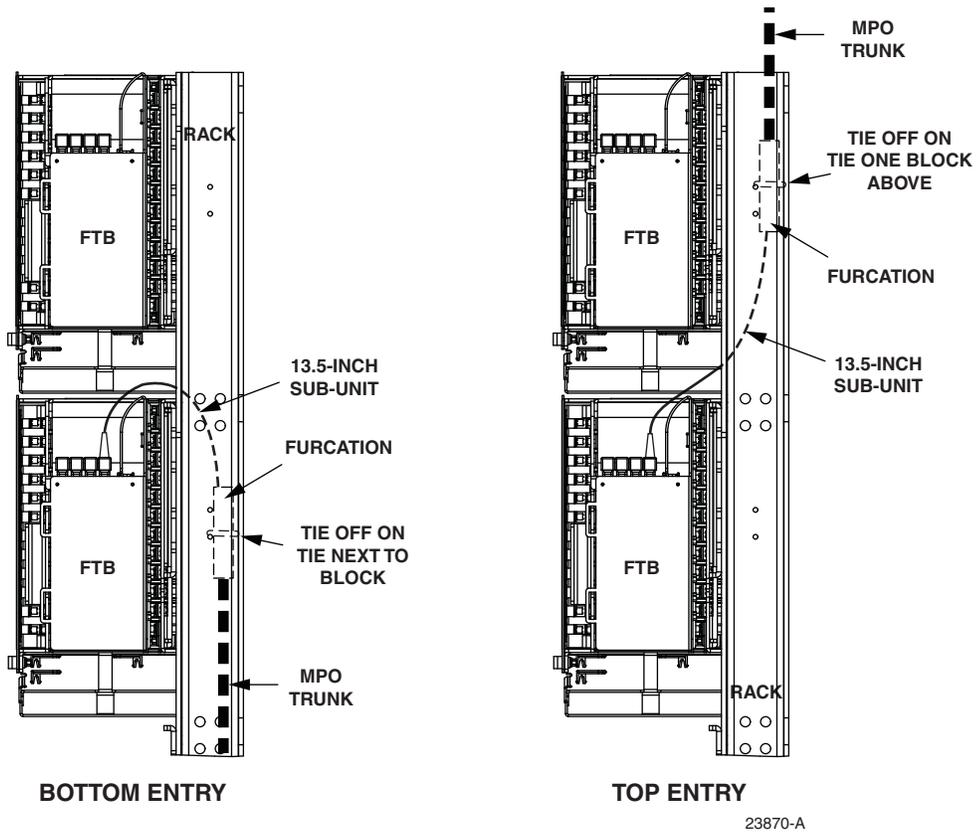
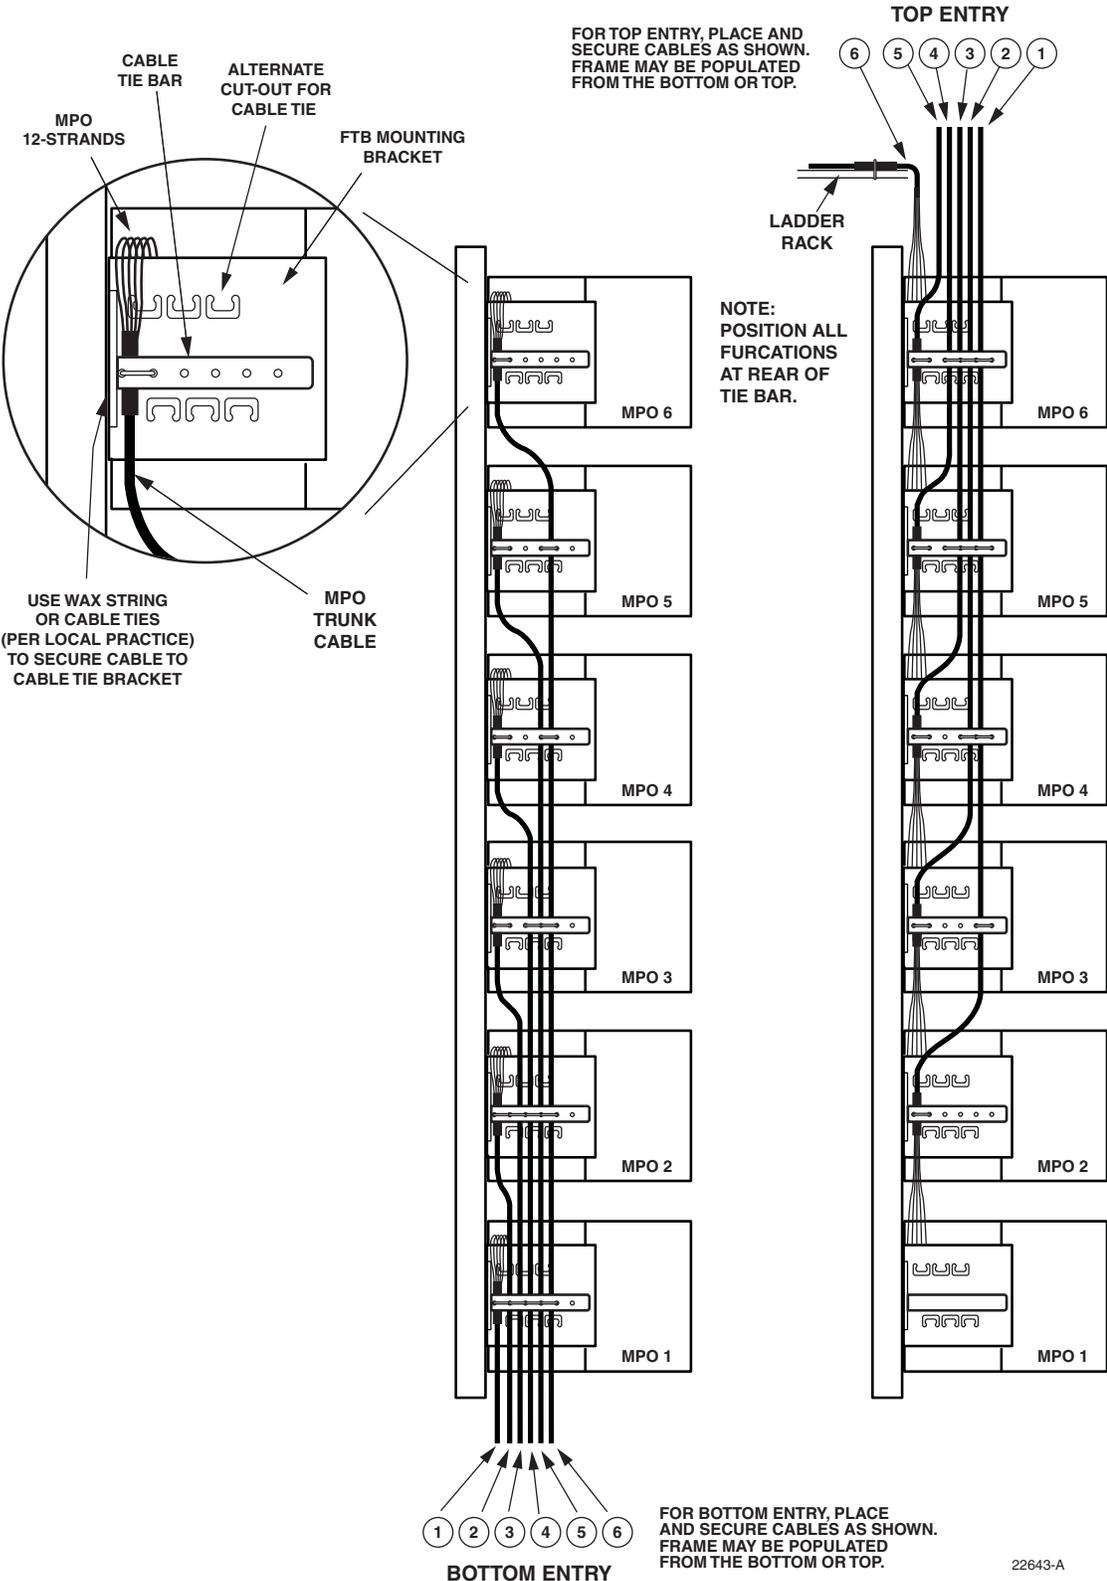

Figure 8. MPO Trunk Cable Routing Into FTB (Rear View)
Figure 9. Routing MPO Trunk Cables on NGF Rack (Side View)
MPO trunk cables may be routed into the FTB from either above or below the rack. Use the following procedure for routing and securing the MPO cable (see Figure 8 and Figure 9).
1. Route the MPO cable from above or below the rack corresponding to the arrangement shown in Figure 8 and Figure 9.